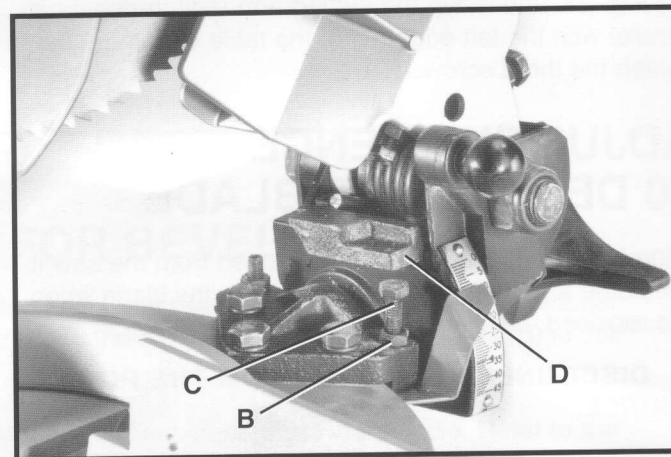

Fig. 26
4. If an adjustment is necessary, loosen locknut (B) Fig. 26, and turn screw (C) until head of screw (C) contacts casting (D) when blade is 90 degrees to the table. Then tighten locknut (B).